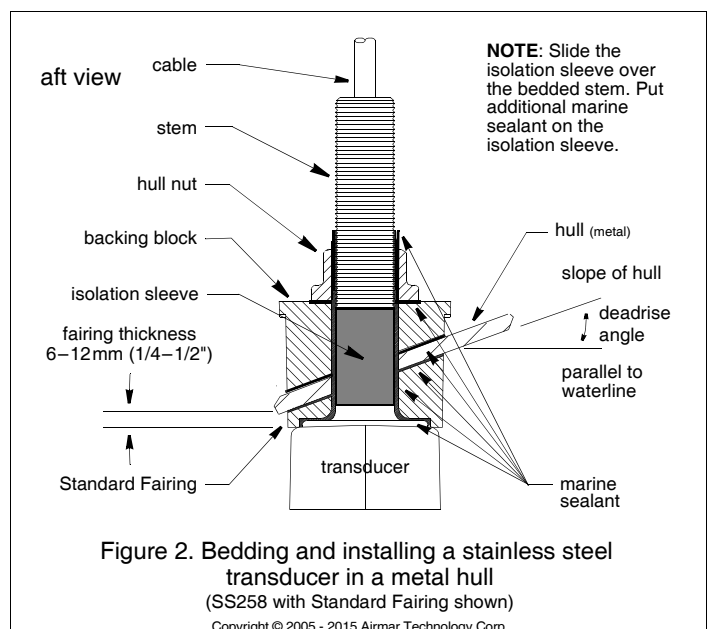
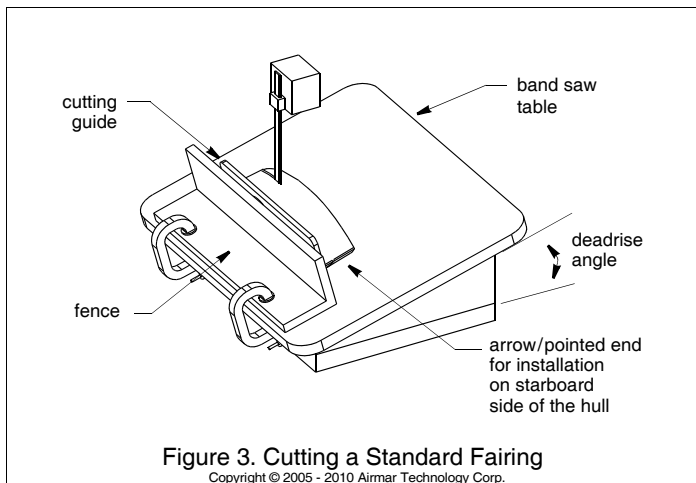

Figure 2. Bedding and installing a stainless steel transducer in a metal hull (SS258 with Standard Fairing shown)
Figure 3. Cutting a Standard Fairing
1. Drill a 3mm or 1/8" pilot hole perpendicular to the waterline from inside the hull (Figure 2). If there is a rib, strut, or other hull irregularity near the selected mounting location, drill from the outside.
1. Measure the deadrise angle of the hull at the selected location (Figure 2).
2. Tilt the band saw table to the measured angle and secure the cutting fence (Figure 3).
4. Adjust the cutting fence, so the fairing will be cut in about two equal parts (Figure 3). *The section that will become the fairing must be between 6–12mm (1/4–1/2") at its thinnest dimension (Figure 2).*
Stainless steel transducer/stem in a metal hull—Slide the isolation sleeve over the bedded transducer stem as far down as possible (Figure 2). Apply a 2mm (1/16") thick layer of the marine sealant to the outside of the sleeve.
Stainless steel transducer in a metal hull—Be sure the isolation sleeve is between the transducer stem and the hull (Figure 2). However, the isolation sleeve must be below the washer and hull nut to prevent the sleeve from interfering with tightening the nut.